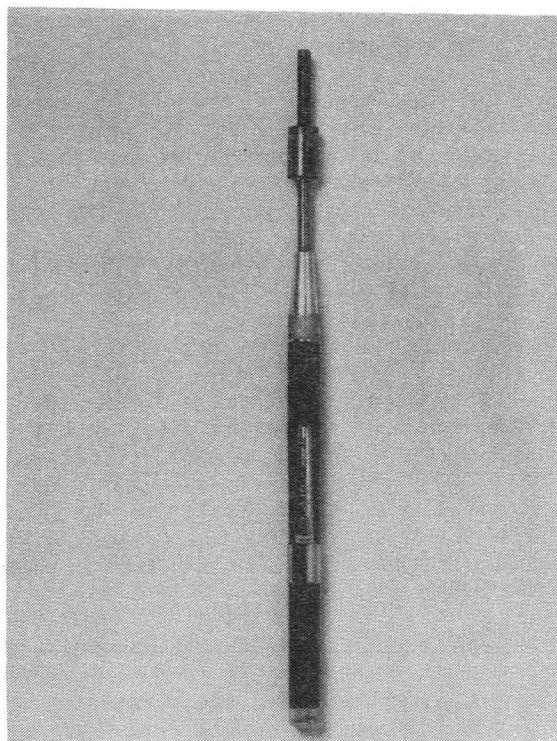

FIGURE 2
- 5.14 The R-4761 Removal tool is shown in Figure 2. This tool comes equipped with the removal head.